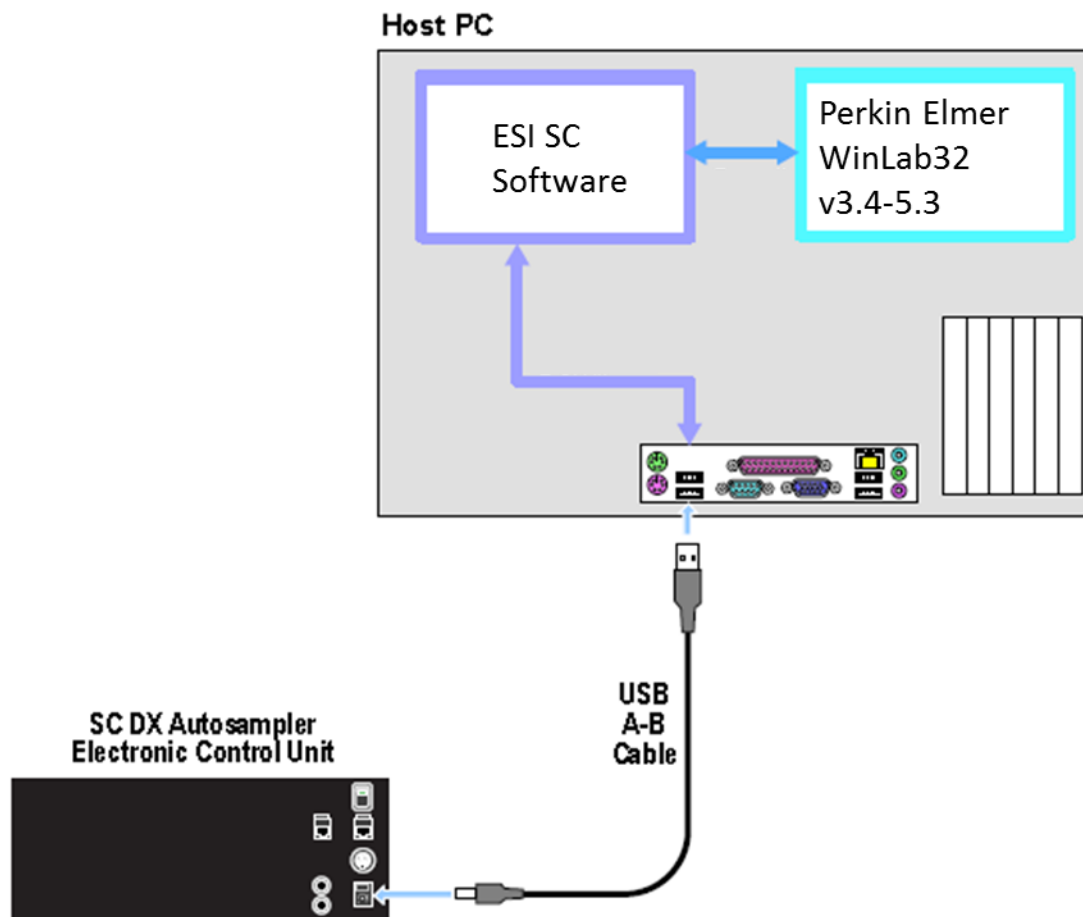

Figure 26: Connections for ESI SC with Optima and SC autosampler.
- 3) Connect the USB cable from the computer to the SC Autosampler control unit. See Figure 26. Connect 24 V DC power to the SC Autosampler.